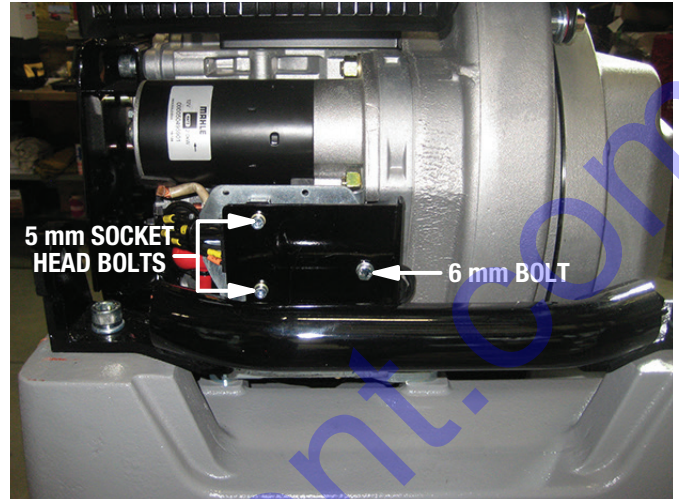

Figure 20. Electrical Panel Bolt Removal (MVH508DZ)
- Remove and set aside the 6 mm bolt and two 5 mm socket head bolts securing the small electrical panel to the front of the unit (Figure 20).